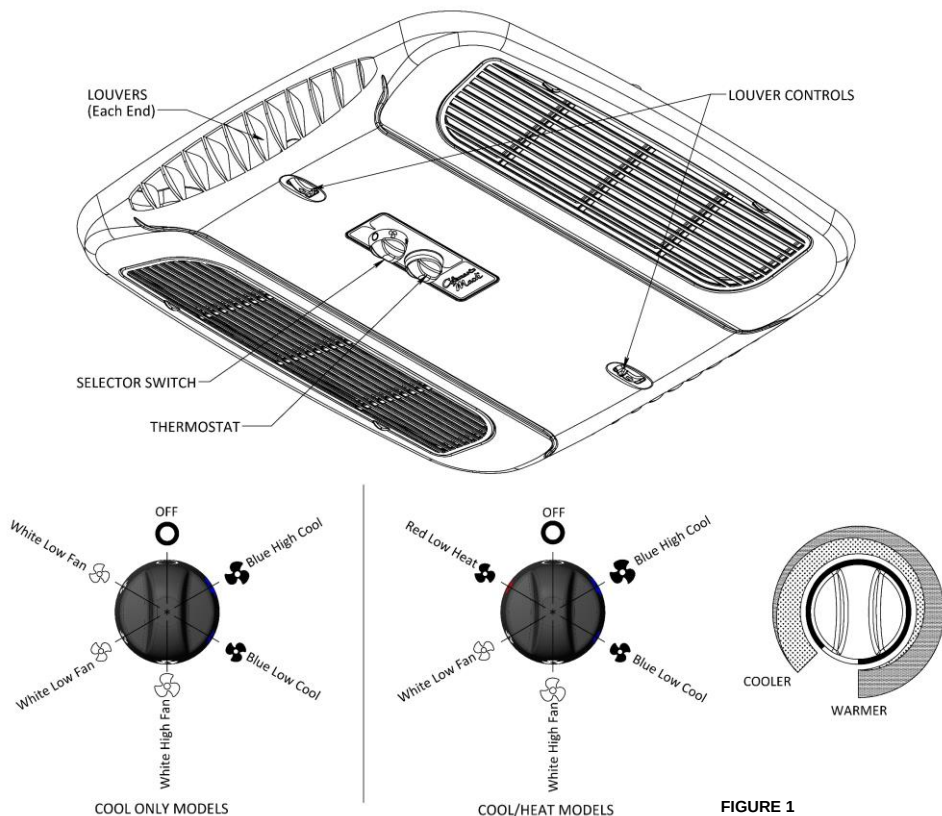

FIGURE 1
**A. The Selector Switch** – The selector switch determines which mode of operation the air conditioner will be in. By rotating the selector switch, the operator can obtain any system function desired. System functions vary depending upon options of both the roof top unit and ceiling assembly. Figure 1 shows selector switch location and lists all available functions by model.
**B. The Thermostat (temperature control)** – In the cooling mode, the thermostat regulates the “ON” and “OFF” temperature setting at which the compressor will operate. The For “Heat/Cool” models, the thermostat also controls the “ON” and “OFF” temperature settings of the heater assembly (See Figure 1).
### For Cooling (Refer to Figure 1)
(Refer to Figure 1-Cool/Heat, page 12)
(Refer to Figure 1, page 12)